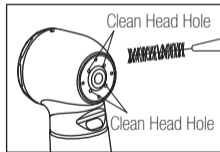

Fig. 4
- 1) Scrub dirt and debris from the handpiece.(Fig.4)